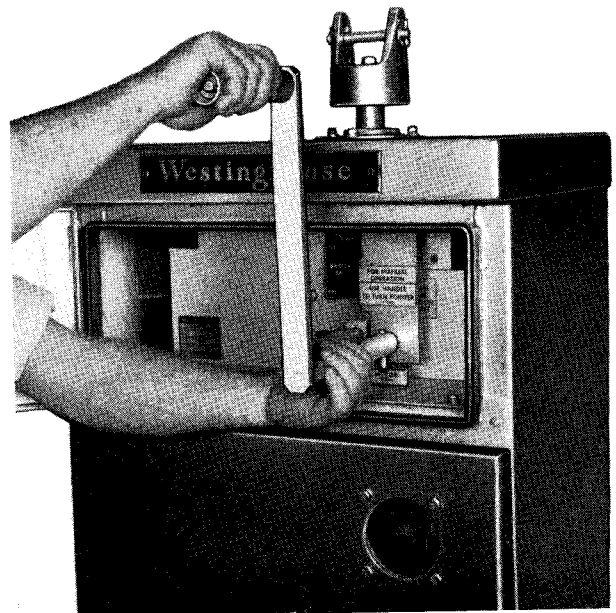

FIG. 5. Manual Operating Handle on Clutch Operating Shaft
4. Insert the slotted end of the handle over the clutch operating shaft, engage pointer pin in the slot, and turn 1/4 turn clockwise so that the yellow pointer indicates the MANUAL position. Figure 5.
2. Insert the slotted end of the handle over the clutch operating shaft, engage pointer pin in the slot of the handle, and turn handle 1/4 turn clockwise so that the yellow pointer indicates MANUAL position. See Fig. 5.
13. Remove manual operating handle from the upper shaft and insert it over the clutch operating shaft. Restore motor mechanism to the MOTOR position by turning the handle 1/4 of a turn counter clockwise. See Fig. 5.